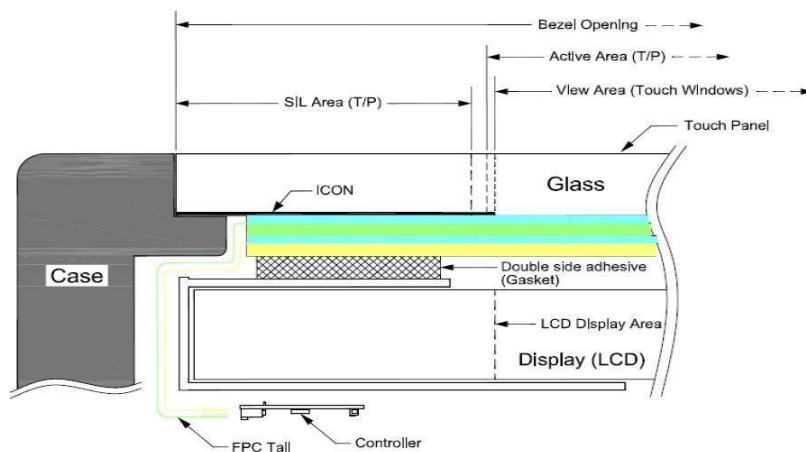

Figure 12-1
(1)	The gasket support of touch panel must be designed on the outside of viewable area, as well as to avoid pressing on touch panel accidentally, the enclosure must be designed with enough clearance to panel surface. To avoid pressing error on touch panel accidentally, please remain space between the surface of panel and the Bezel. (Figure 12-1) [请将固定触控屏用的支撑体(support)设计于可视区(Viewable area)之外。为避免不小心碰到触控屏而产生动作,请预留空间于面板与机壳之间](图示 12-1)
(2)	We recommend elastic material made support. [建议使用弹性物质制成的支撑体]
(3)	The edge of touch panel is conductive. Don't touch it with metal after mounting. [触控屏面板四周面板有可能会导电,安装时请勿与其他金属物质接触]
(4)	Please take notice of the grounding of power while mounting the touchscreen, otherwise it may have unstable situation. [电容式触控屏幕的组装必须注意电源的接地,可能因外界干扰会有动作不稳定的情况发生]
(5)	Please do not pull on flex tail during assembly. Do not bend at 90° and each bend angle should be no less than R:5mm. [组装时不可拉扯 TAIL 讯号线,且不可直接弯折 90° 度,每处弯曲处都需保持最小 R 角(R=5mm)]
(6)	During assembly, the touch panel must be securely affixed onto the LCD Panel to prevent displacement of the touch panel due to outside force pressing on touch screen or bezel/case. [电容式触控面板与 LCD Panel 组装时,必须确定确实黏贴固定,不可因外力按压触控面板或机壳,而造成触控面板晃动偏移。]